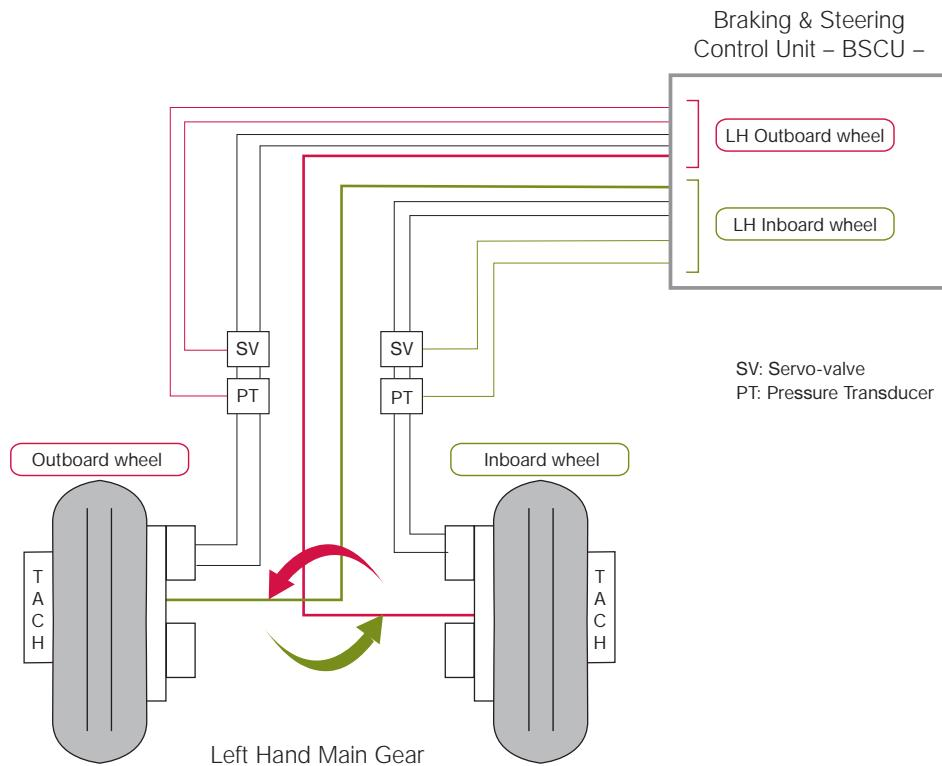

Figure 1: Schematic of tachometer cross connections
- A few cases of Main Landing Gear — MLG — tachometer cross connections have been reported. These cross connections were done at the level of the wheels axis, as shown on figure 1.